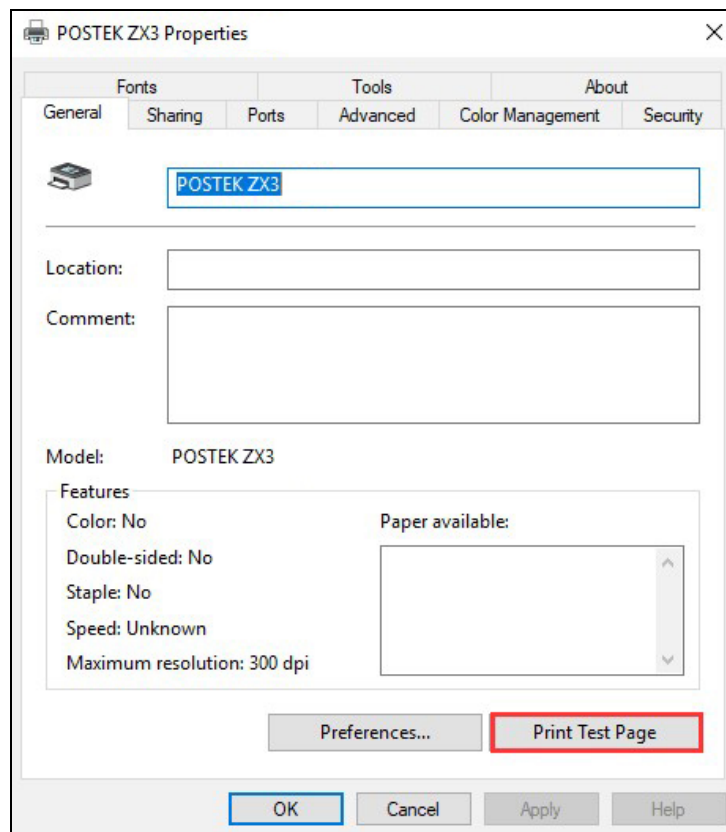

Figure 2-43 Print Test Page
- 11. Print a test page to see whether the printer is connected properly. As shown in Figure 2-43.